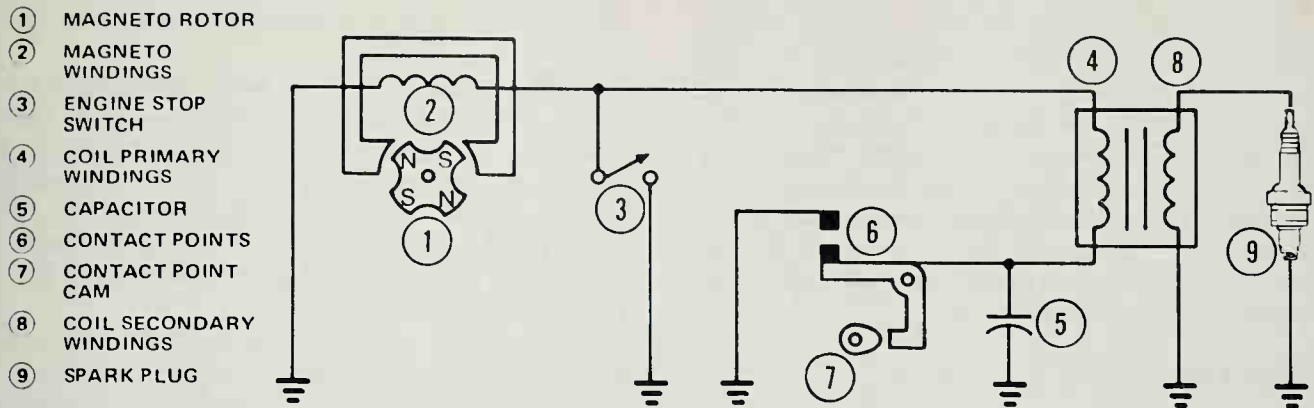

Figure 17-9. Simplified diagram of a high-tension magneto. (Honda Motor Co., Ltd.)
The low-tension system shown in the simplified diagram in Figure 17-9 uses a separate ignition coil to induce high voltage. The breaker points (6) close to complete the primary circuit. The magneto rotor (1) spins, inducing a current in the magneto windings (2) which flows through the ignition coil primary windings (4), establishing a magnetic field in the ignition coil. Because the magneto current flow will reverse direction as the rotor spins, the magnetic field in the ignition coil collapses, but not rapidly enough to induce usable ignition voltage. Accordingly, the breaker point cam (7) is synchronized with the magneto rotor to open the breaker points at the time of collapse, breaking the primary circuit and speeding the collapse of the magnetic field in the ignition coil. Rapid collapse of the magnetic field induces high voltage in the coil secondary windings (8) which flows through the spark plug (9). The capacitor (5) protects the breaker points and helps speed the collapse of the magnetic field. The engine stop switch (3) can be closed to short-circuit the magneto and stop the engine.